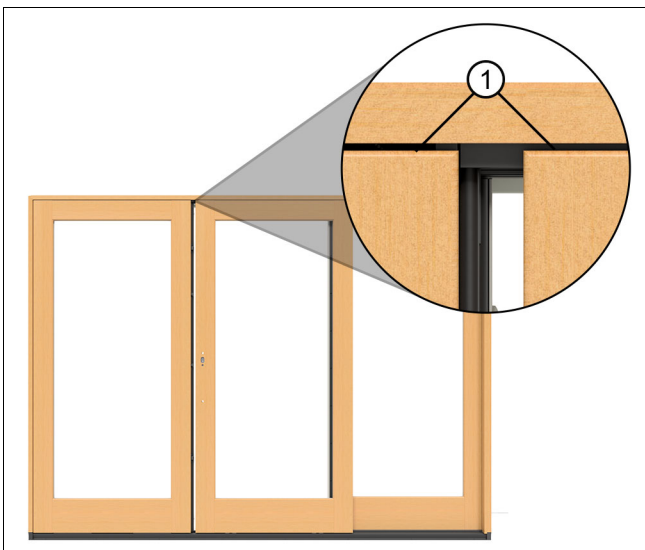

Figure 45 OXO configuration shown.
*NOTE: Rollers are set at neutral from the factory. Adjustment from neutral is about 1/8" up or down. The expected gap between the top of the panel and the frame should be about 1/8". See Figure 45.*